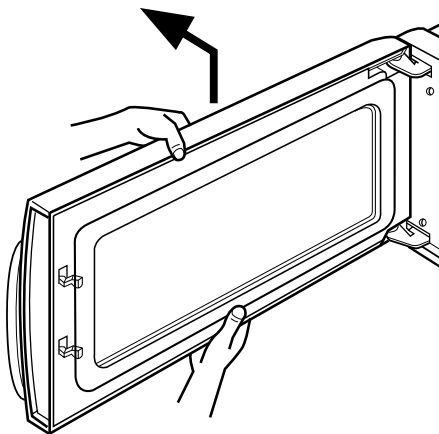

Figure 15
- (1) Remove one rivet ASS'Y securing it to the oven upper plate by using knife blade.
- (2) Pull out the stirrer fan cover.
- (3) Remove two rivets ASS'Y securing it to the oven upper plate by using knife blade.
- (4) Remove the stirrer fan.
F. REMOVING DOOR (Figure 15)
- (1) Remove the vent grille by two screws securing it to the outcase loosening.
- (2) Lift up and draw the door.